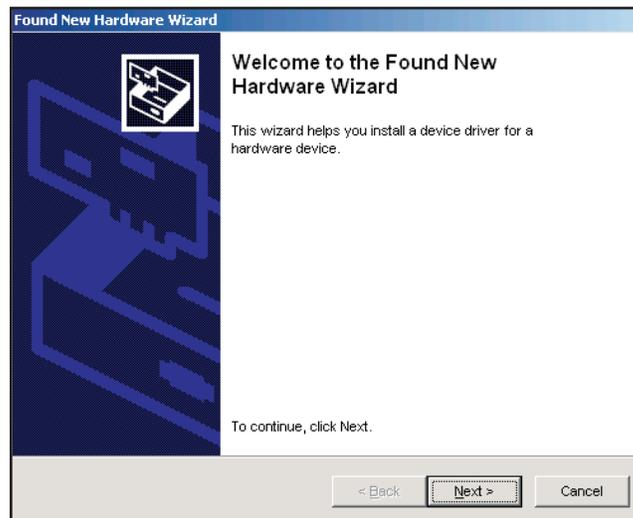

Figure 5 The Found New Hardware Wizard
2. The Found New Hardware Wizard (Figure 5) will start automatically. Click the Wizard’s **Next** button.